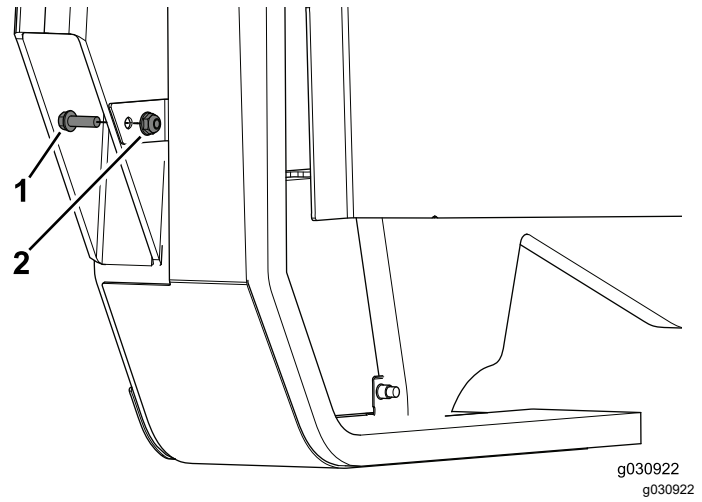

Figure 31
3. Use 1 bolt (1/4 x 3/4 inch) and 1 flange nut (1/4 inch) to complete the installation of the panel assembly (Figure 31).